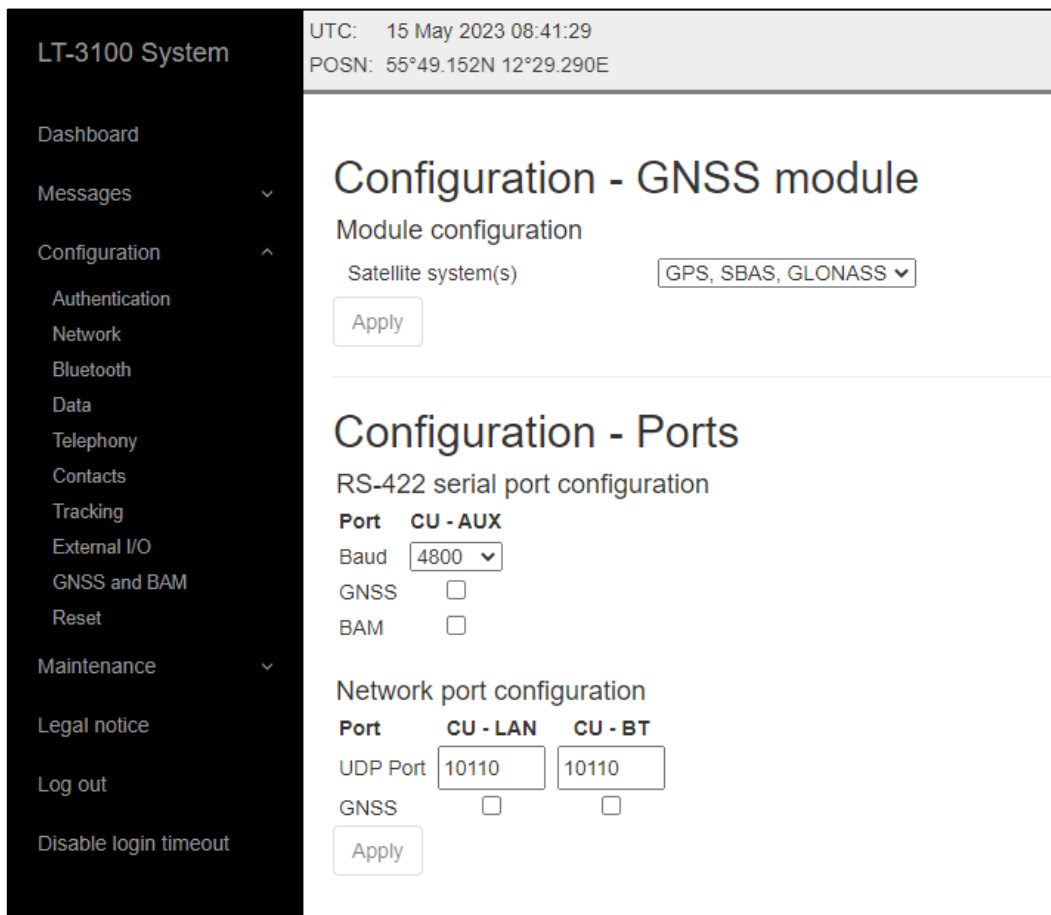

Figure 165: Web server – GNSS and NMEA output
The LT-3100 system has a built-in GNSS receiver located in the LT-3130 Antenna Unit. The GNSS receiver is used for time, date and position of the LT-3100 system, for example by the tracking application. The GNSS receiver can be configured to operate on different satellite systems (e.g. GPS only) - this can be managed under the GNSS module, as illustrated in Figure 165.
**NOTE:** The Port configuration illustrated above in Figure 165 for GNSS and BAM supports the following baud rates: 4800, 9600, and 38400. The port is bi-directional RS-422. Only BAM can receive data.